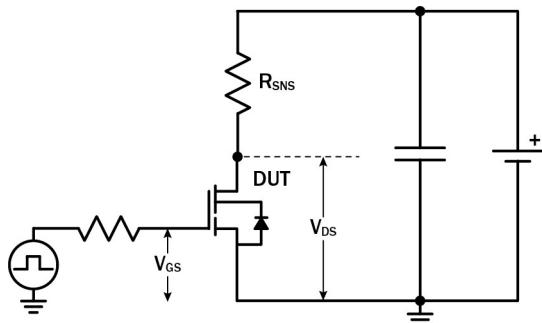

Figure 19. Dynamic R_{DS(on)eff} Test Circuit
a. Reflects both static and dynamic on-resistance; dynamic on-resistance test setup and waveform; see Figures 19 and 20 for conditions